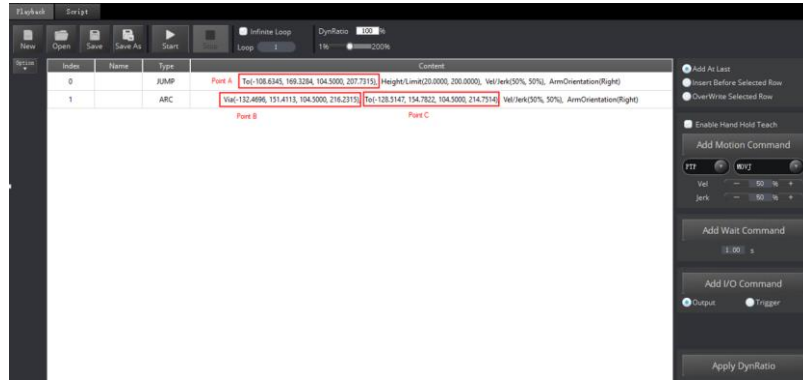

Figure 6.4 Information of saved points in ARC
- Step 9** Click **Start**, and you will find that Dobot M1 moves as an arc. The information of saved points in ARC is shown as Figure 6.4.